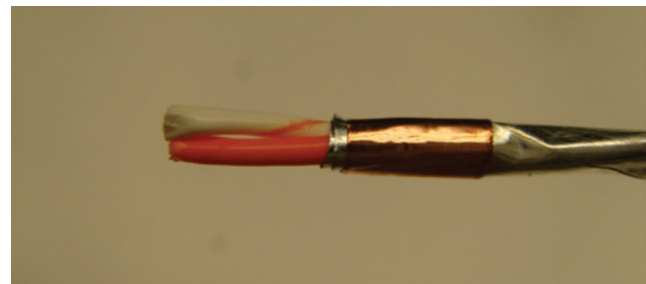

Figure 20: Removing polyimide tape and foil
12. Using cutters, remove the polyimide tape and the foil until you reach the copper tape placed in step 11 (Figure 20).